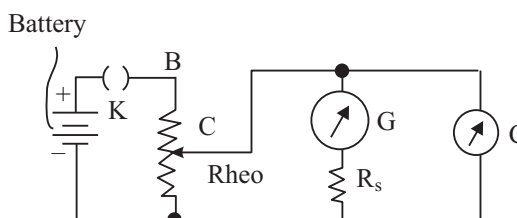

Fig. 29.3
- (vi) After having determined the internal resistance G and full scale deflection current I_g of the given galvanometer, calculate the series resistance R_s by using equation (29.5). Connect this resistance in series with the galvanometer. The galvanometer will become a voltmeter of range V . To check the correctness of conversion of the Galvanometer, compare it with a standard voltmeter using the circuit shown in Fig. 29.3.